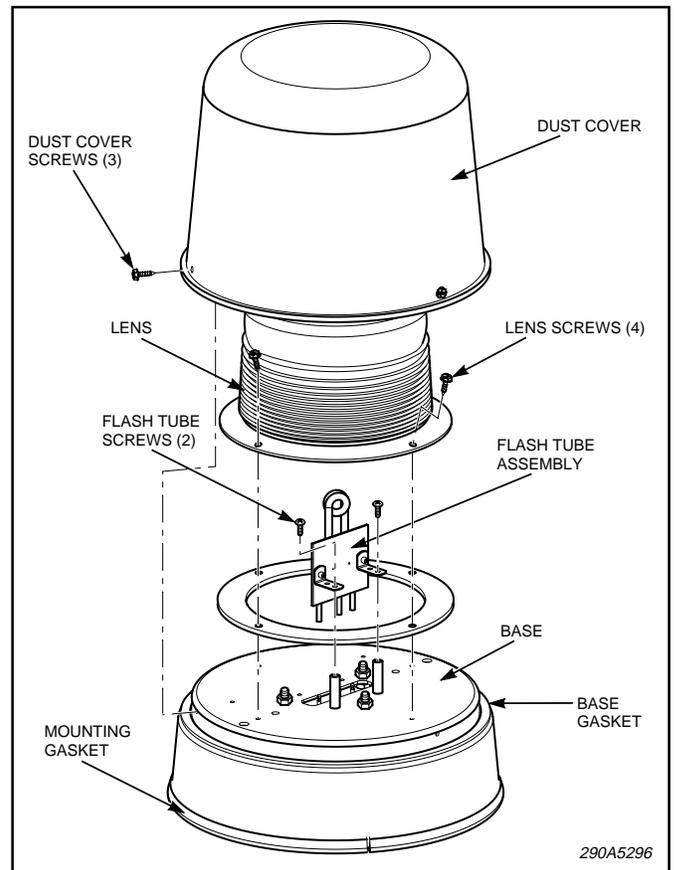

Figure 2.
E. Grasp the flash tube by its printed circuit board and pull it off of the pins, using a gentle "rocking" motion. See figure 2. Install a new flash tube. Secure the flash tube assembly to the base using the previously removed screw. Ensure that the O-ring seal rests flat on the base (see figure 2) and reassemble the light.